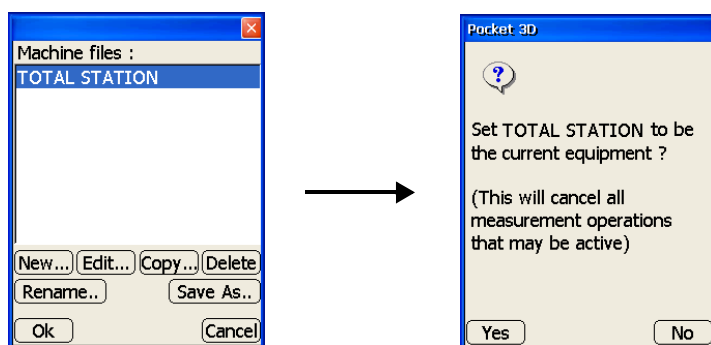

Figure 2-61. Select Equipment Configuration
7. On the *Equipment configuration* dialog box, select the new or edited configuration file, and press **Ok** to continue (Figure 2-61 on page 2-43).
8. At the *verification* screen, press **Yes** to apply the configuration to be the current equipment (Figure 2-61 on page 2-43).